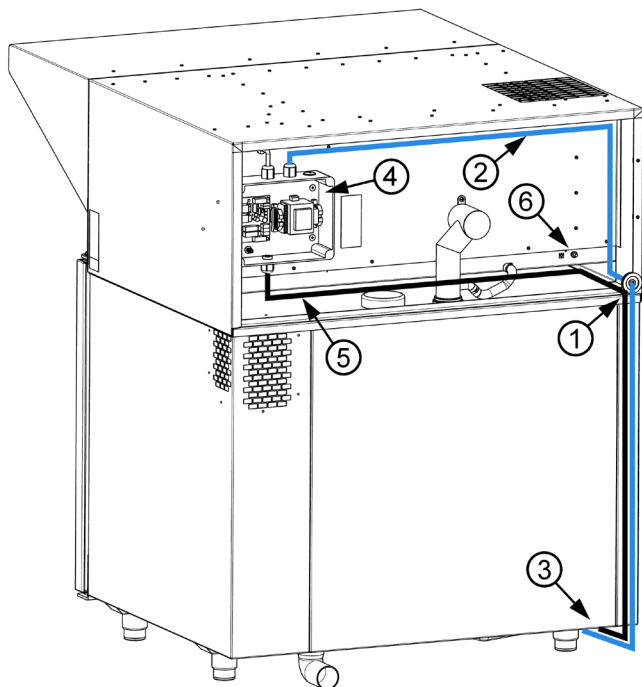

Figure 6: Back of 0610 hood
At the back of the hood there is an M6 bolt (6), which is for the protective couplings, see fig. 6. Connect it to a suitable cable and make the protective couplings
At the back of the hood, there is a plastic distributor (4), from which the controlling UTP cable (2) emerges, at the end of which is connector RJ-45 (see fig. 6).
Cut a cross-shaped opening in the rubber grommet (1) on the edge of the hood. Pass the UTP cable (2) through the opening and run it to the pierced flanges (3) at the back left corner of the base of the appliance (see fig. 6)
At the back of the hood (see fig. 6), there is a plastic distributor (4), from which the 3 x 1.5mm2 power cable emerges(5), terminating in loose leads. Thread this cable through the rubber grommet in the same way as the UTP control cable.